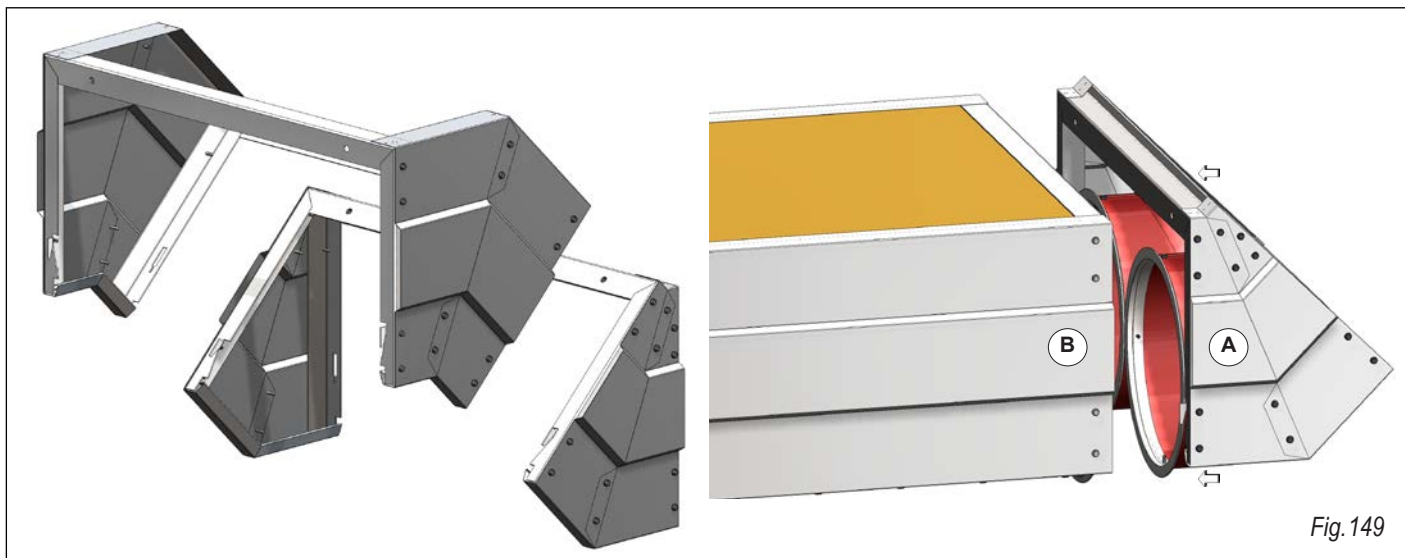

Fig. 149
Hook the kit for the height variation (A) with the radiant module (B) through the male tooth and the slot (Fig. 149), as previously explained.